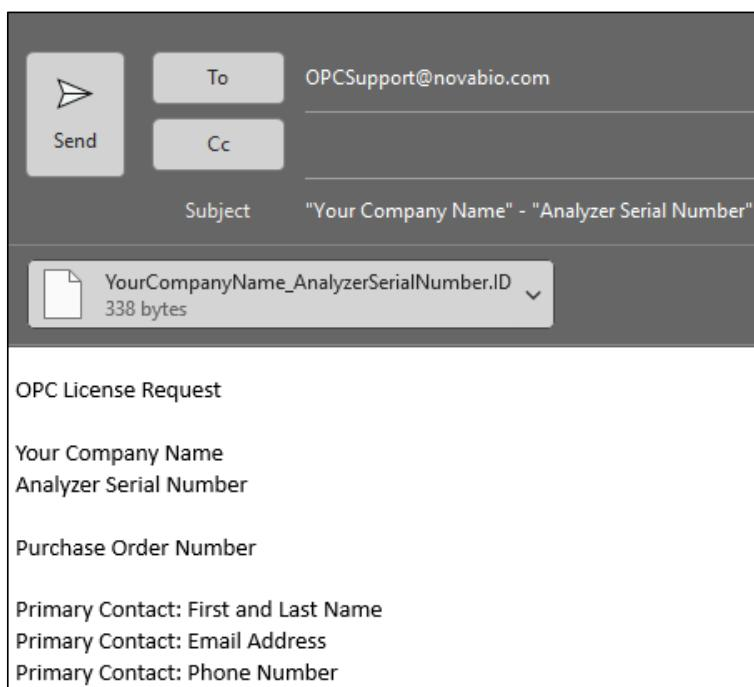

Figure 3.11 Email Format for Permanent License Request
10. Email the file with the .ID extension to OPCSupport@novabio.com to receive the uniquely generated OPC license file with the .LIC extension for the analyzer (Figure 3.11).